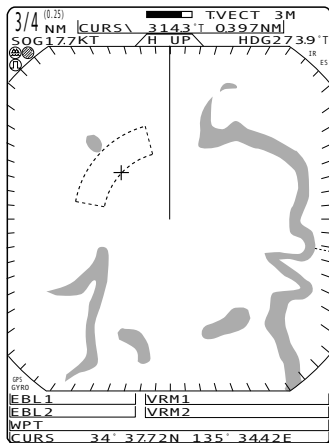
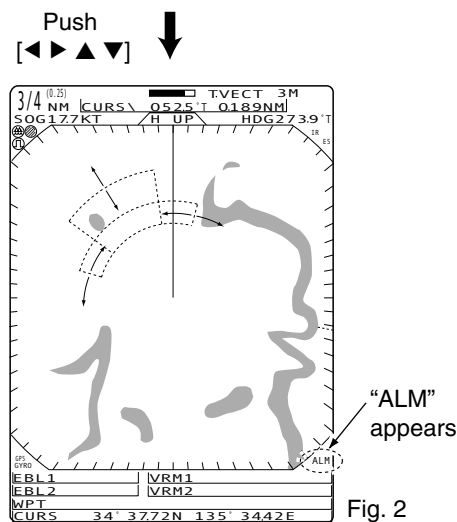

Fig. 1
Fig. 2
- ① Push [+]/[量程+] or [-]/[量程-] to select the desired range.
- ② Push [◀ ▶ ▲ ▼] to set the cursor to the starting point of the alarm zone.
- ③ Push and hold [ALM]/[报警] for 1 sec. to enter the alarm zone setting.
- The starting zone appears on the screen. (Fig. 1)
- ④ Push [◀ ▶] to adjust an angle and push [▲ ▼] to set the distance of the alarm zone.
- ⑤ Push [ALM]/[报警] to fix the alarm zone and activate the alarm function.
- ⑥ If a target comes into or goes out of the alarm zone, an alarm beep is emitted.
- ⑦ To deactivate the alarm function, push [ALM]/[报警].
- ⑧ To activate the alarm function again with the same programmed zone, push [ALM]/[报警].
- “ALM” and pre-programmed alarm zone appears. (Fig. 2)